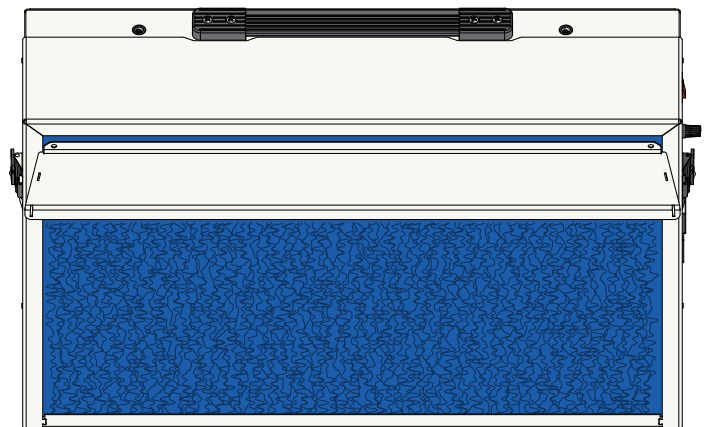

FIG. 2
Insert the Top Vane (G) between the Frame Assembly (E) and Pre-Filter (D) as shown in [FIG. 2]. The Top Vane will be held in place by the Pre-Filter pressing on it until the remaining Vanes are installed.